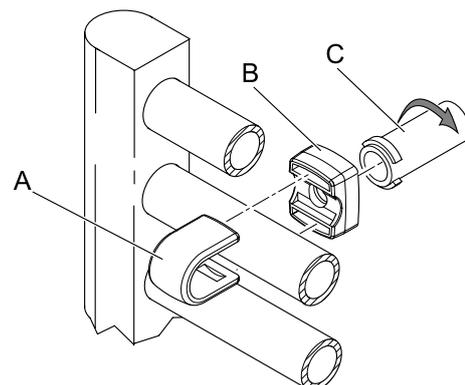

Fig. 5
Carefully assemble the four mounting collars (A) and rail seats (B) to the towel rail and secure in the positions by inserting and turning the inner bracket sleeve (C) through 90 degrees as shown in Fig. 5. The brackets should be placed on the bottom and second from top rails and separated by a distance of 360mm. Ensure the inner bracket sleeves are facing directly backwards.